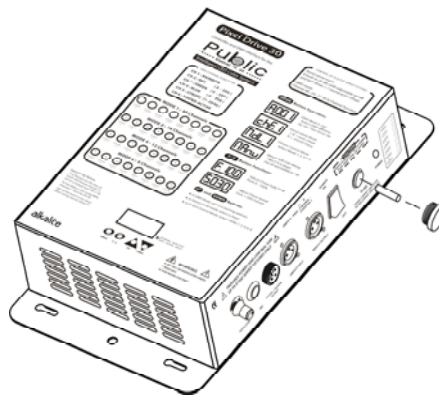

Fig. 5
2. Insert a screwdriver into the slot in the fuse cover. Turn the screwdriver to the left, at the same time gently push a bit (Turn and Push). The fuse will come out. (Fig. 5)